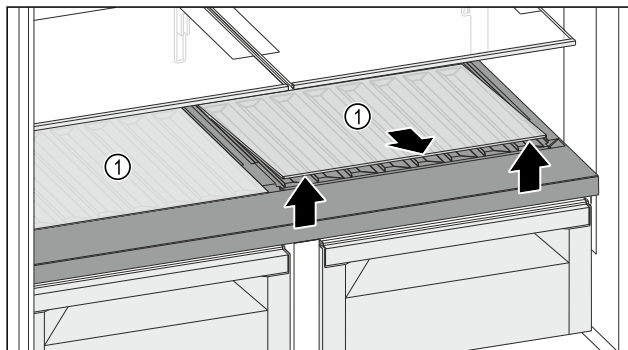

Fig. 120
- Lift one or both of the glass shelves Fig. 120 (1) in the front at the recess and pull it/them out.
- Store the glass shelf(ves) Fig. 120 (1) somewhere safe outside of the appliance.